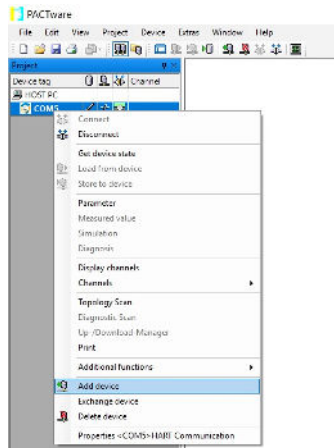
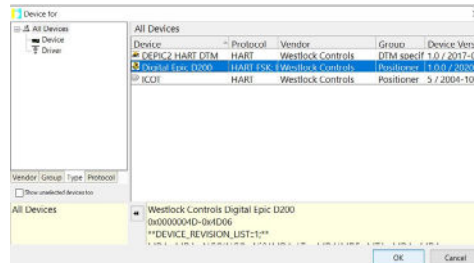

Figure 9: Add Device
Figure 10: Adding Digital EPIC D200
- Open *Device Catalog* again (see step 2) and select Digital EPIC D200, then click *Add*. Alternatively, within the Project Window, right click *COM#* and select *Add Device*, select Digital EPIC D200, then click OK. See **Figure 9** and **Figure 10**.